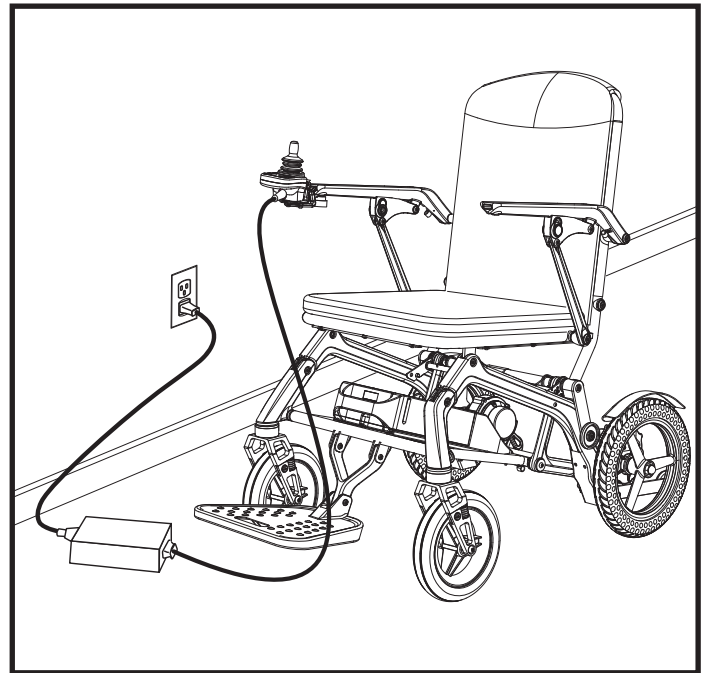

Figure 12. Battery Charging using the Off-board Charger
5. Remove the battery charger from the box and plug into the controller charger port. Follow the charging instructions printed on the charger. **See figure 12.**
4. Plug the off-board charger into the off-board charger/programming socket of the controller. **See figure 12.**